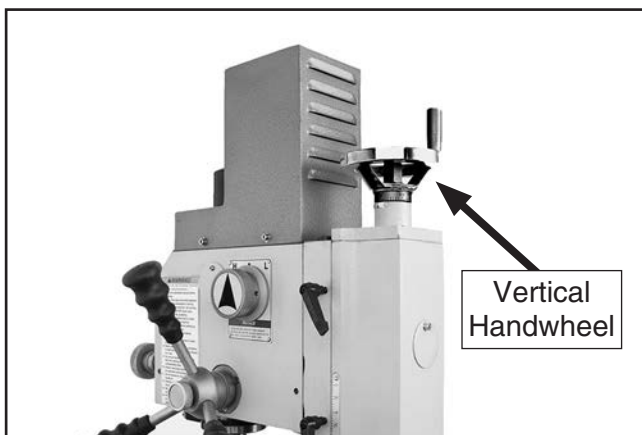

Figure 21. Location of Z-axis handwheel.
3. Use vertical handwheel shown in **Figure 21** to adjust headstock height.